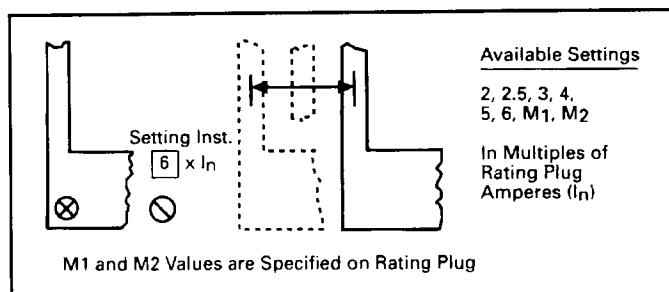

Fig. 8.5 Instantaneous Current Settings
There are eight (8) available Instantaneous Current Settings, as illustrated in Fig. 8.5. Six settings are in the range from 2 to 6 times the rating plug value (I_n), and the other two settings are "M1" and "M2" times (I_n). The values that "M1" and "M2" have depend upon the type of circuit breaker, and are specified both on the rating plug